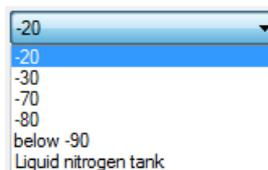

Figure 44. Drop down menu **Temperature**
- **Temperature** field contains a drop-down list of temperatures (Fig. 44).